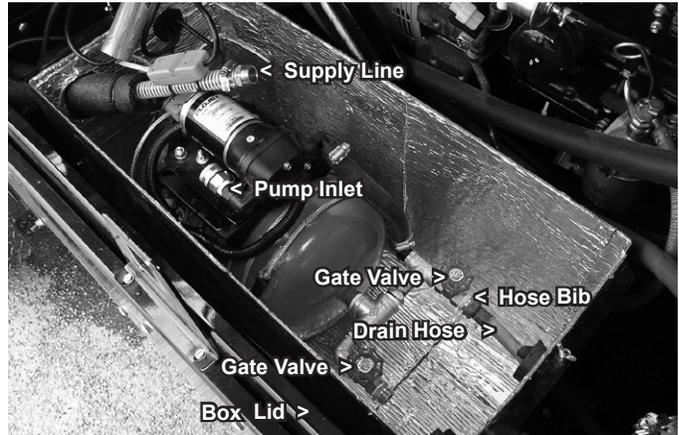

Figure A23
3. With the pump supply hose disconnected at the swivel, remove the poly plug and brass cap from the tank plumbing as shown in Figures A23 and A24. The water in the supply line will gravity flow out of the line.